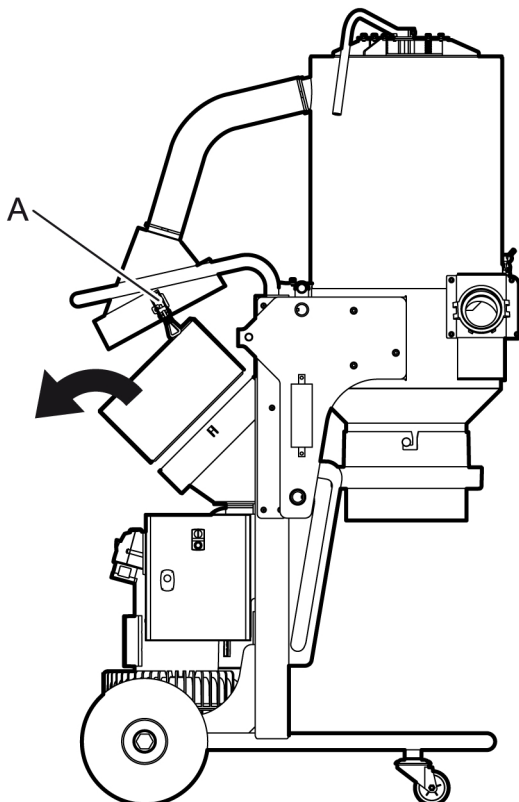

Figure 5-1. Lift out the absolute filter
1. Loosen the two quick fasteners (A) that hold the absolute filter holder in place. Let the holder and hose hang freely, see Figure 5-1, page 24.
2. Lift out the absolute filter, see Figure 5-1, page 24.